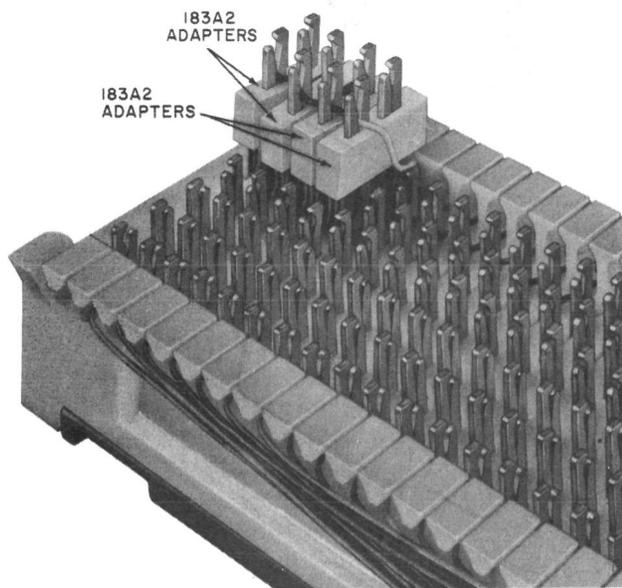

Fig. 15—Typical Installation of 183A2 Adapters on 66B-Type Connecting Block
4.06 No special tools are required to install or remove either adapter. The 183A2 adapter installed is shown in Fig. 15. Install as follows: